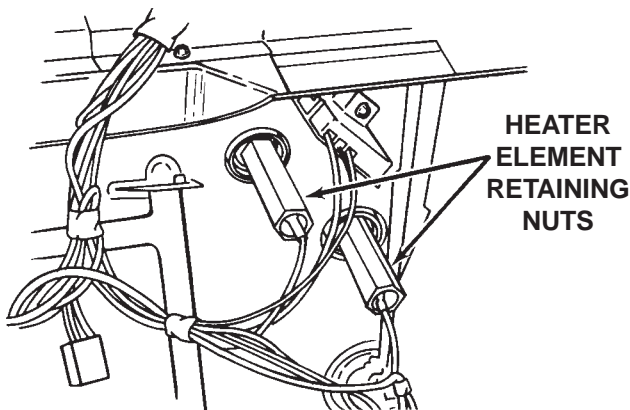

Fig. 1-12
3. Remove the two long Hex-head nuts securing the heater element to the tub. (Fig. 1-12)
4. Remove the heater element from the three (3) metal clips that hold it suspended inside the tub.